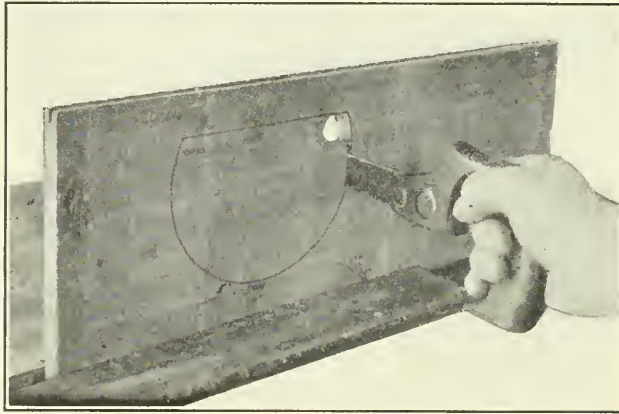

Fig. 81
21. The **Compass-saw** is for cutting curves, and is used like the other saws. In sawing holes ("inside" or "coring" work) one or more smaller holes must be bored in which to start the saw (Fig. 81). The blade is narrow, tapers from the handle to the tip, also from the